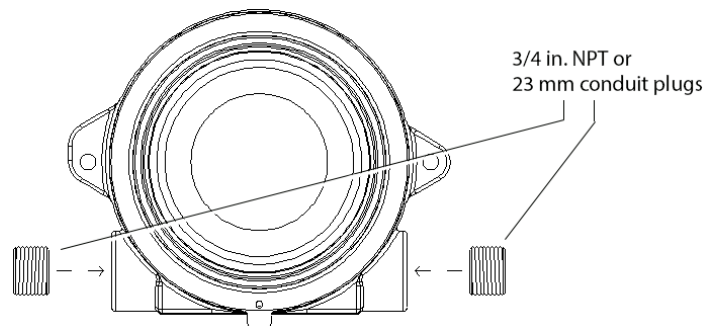

Figure 8. Detector, front view
- a. If only one conduit entry is used, install and seal the conduit plug on the unused entry ($\frac{3}{4}$ in. NPT or 25mm, as shown in Figure 8).